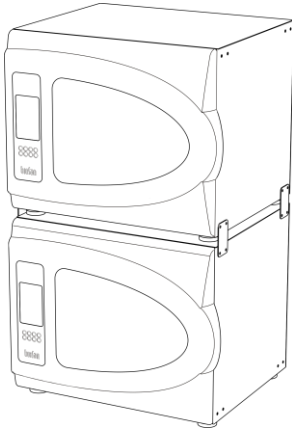

Figure 2. Stacking two units
5.4 Stacking two units (figure 2).